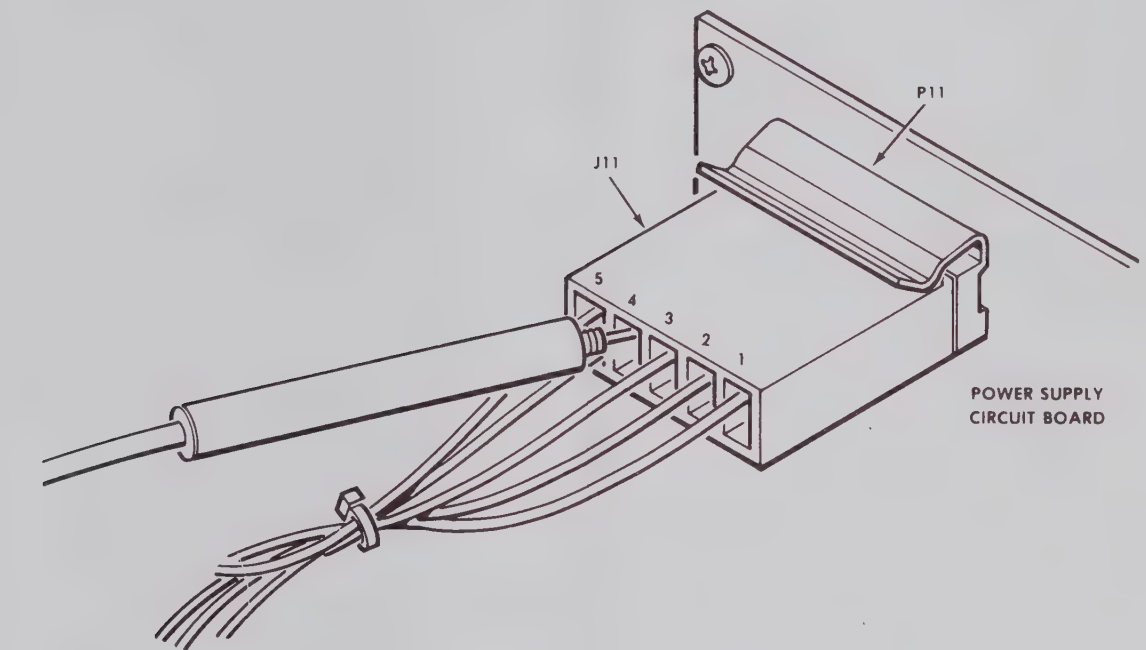

Figure 2.9-8 Connector J11 Test Points (with Load)
- (1) Reconnect the Model 1125 AC power cord to the power receptacle and pull ON the Model 1125 front-panel power switch.
(2) Locate the 5-pin wire connector (J11) at the upper-left edge of the power supply circuit board. The three output tests are all conducted with a test probe at this 5-pin connector.
(3) Start doing tests "with load," where J11 joins to the corresponding fixed connector (P11). The 1125 system will draw current from the power supply.
(4) Move the probe from wire to wire as shown in the left column of Table 2.9-C. Each time, insert the probe into the wire opening so that the point passes the insulation and touches the bare wire (Figure 2.9-8).
(5) Check the digital multimeter display against the table's right-hand column to see if the 1125 voltage output conforms to the specification.
(6) Make a note of any output reading that does not conform to the specification.